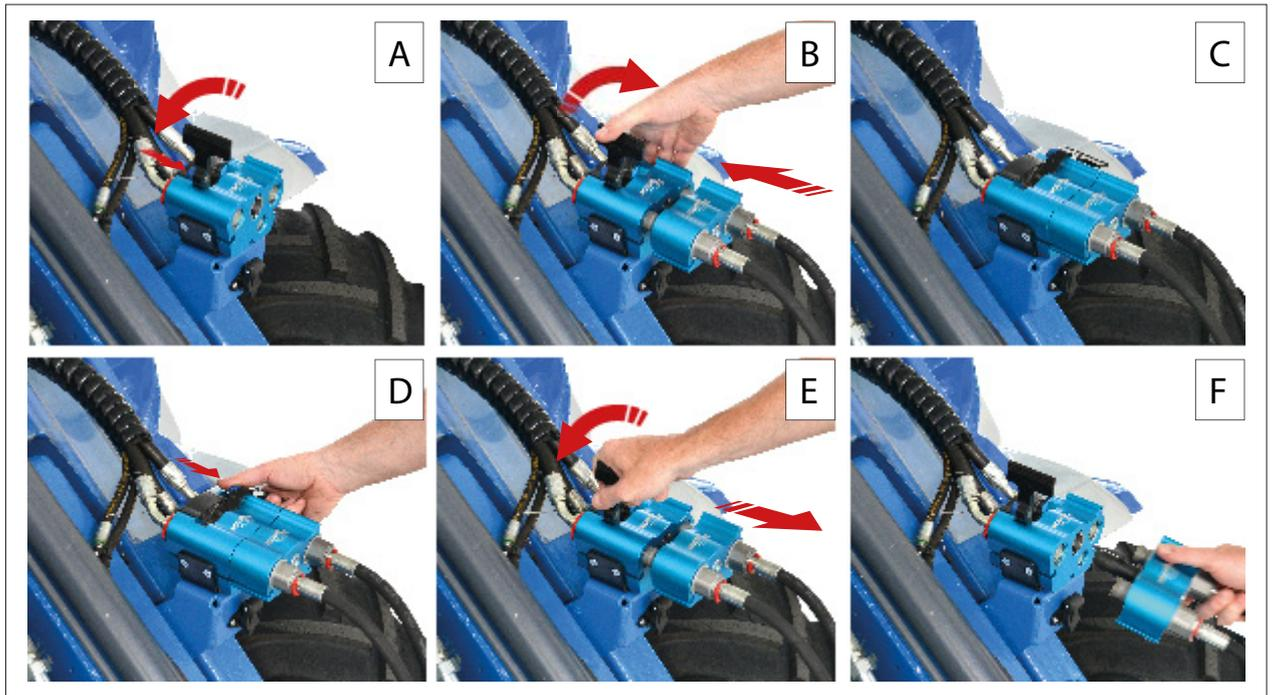

FIG. 25
- 2) Press the lock button (FIG. 24 - Ref. 2) on the lock handle and raise the lock handle (FIG. 24 - Ref. 3) to the unlocked position (FIG. 25 - Ref. A).
- 4) Pull the lock hand (FIG. 25 - Ref. B) downwards, drawing the adapter plate into the connector (FIG. 25 - Ref. C).
- 1) Press the lock button (**FIG. 24 - Ref. 2**) on the lock handle and raise the lock handle to the unlocked position (**FIG. 25 - Ref.D and E**).
- 2) Disconnect the attachment's hydraulic lines from the machine (**FIG. 25 - Ref. F**).